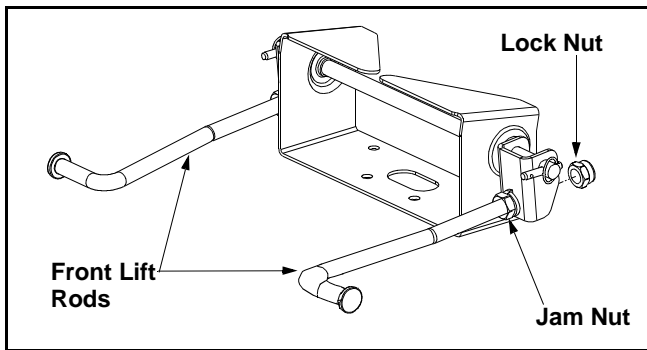

Figure 21
- Loosen the rear jam nuts on the front lift rods and turn the front lock nuts clockwise to raise the front of the mower deck or counterclockwise to lower the front of the mower deck See Figure 21.